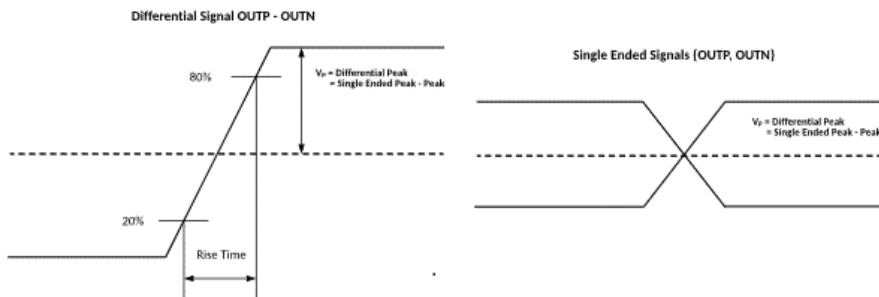

Figure 33. Waveform Convention
- Figure 33 describes the interpretation used for swings.